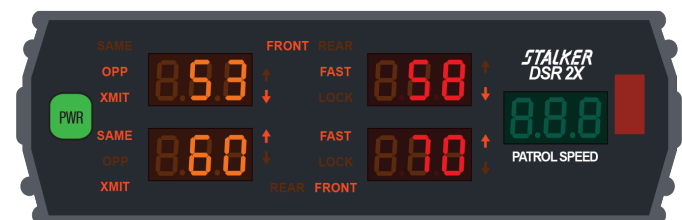

Figure 15
The Opposite Direction sensitivity of the 2X is adjusted by pressing the remote control **MENU** key twice. The $\uparrow$ and $\downarrow$ keys then cycle through the five (5) sensitivity levels: **SEn 0**, **SEn 1**, **SEn 2**, **SEn 3**, and **SEn 4** (Figure 15 shows sensitivity level 4, the factory default setting). In each case, the right-hand display refers to the current sensitivity setting. Sensitivity varies from **SEn 0** (minimum range) to **SEn 4** (maximum range). The sensitivity must be set separately for Same-Direction Mode and Opposite-Direction Mode. Press any of the four Target Zone keys to exit the Menu.